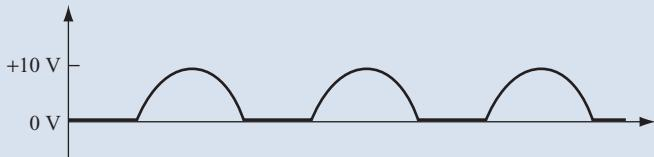
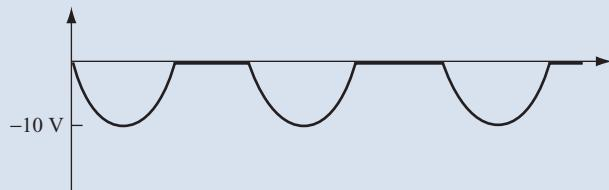

FIGURE 11.8
FIGURE 11.9
See Figure 11.8.
- 6** When the diode is connected in the opposite direction, it is forward-biased and, therefore, conducts current when the input signal is negative. In this case, the diode is reverse-biased when the input signal is positive. Therefore, the output waveform is inverted from the output waveform shown in Figure 11.8.
See Figure 11.9.
Refer to the output waveforms shown in Figures 11.8 and 11.9. Do these waveforms represent positive DC voltage pulses or negative DC voltage pulses? _____
The waveform in Figure 11.8 represents positive pulses of DC voltage. The waveform in Figure 11.9 represents negative pulses of DC voltage.